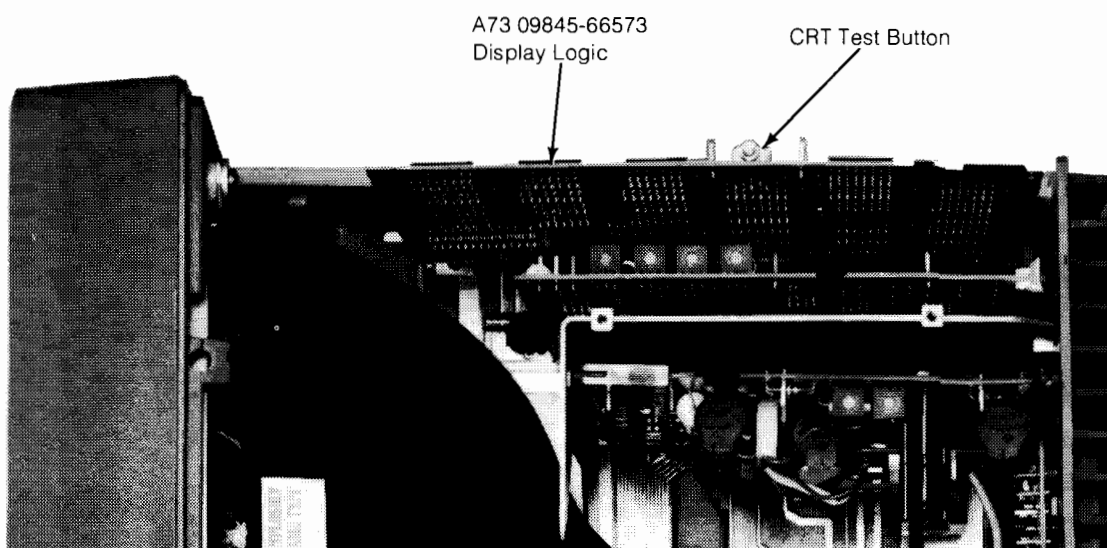

Figure 2-7: CRT Test Button
To access the switch, remove the CRT top cover. The switch is located on the A73 assembly as shown in Figure 2-7.
- Press the CRT test button on the A73 assembly, shown in Figure 2-7, to display the alpha raster in inverse video.